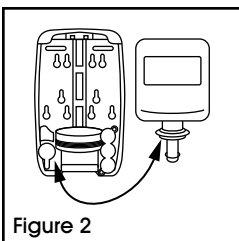

Figure 2
2. Check that the color of refill collar key matches color key located immediately below status light. (See Figure 2)